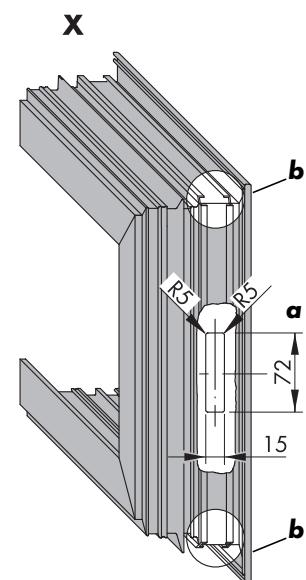

Figure 2
- b Open operating rod guiding groove. (Figure 2).